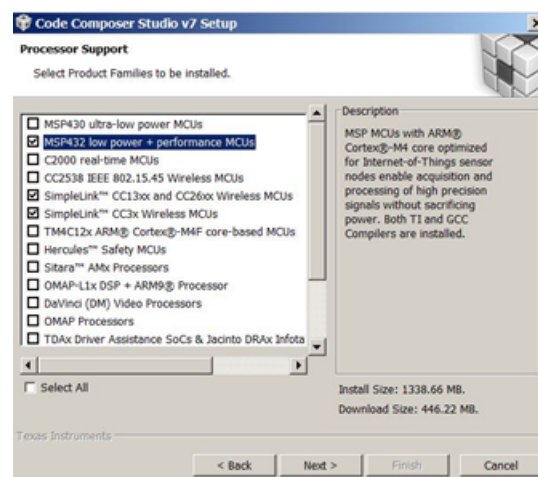

Figure 30. CCS Setup – Choosing CC32xx SimpleLink Devices
- Ensure to select the SimpleLink CC3x Wireless MCUs option for processor support as shown in Figure 30.